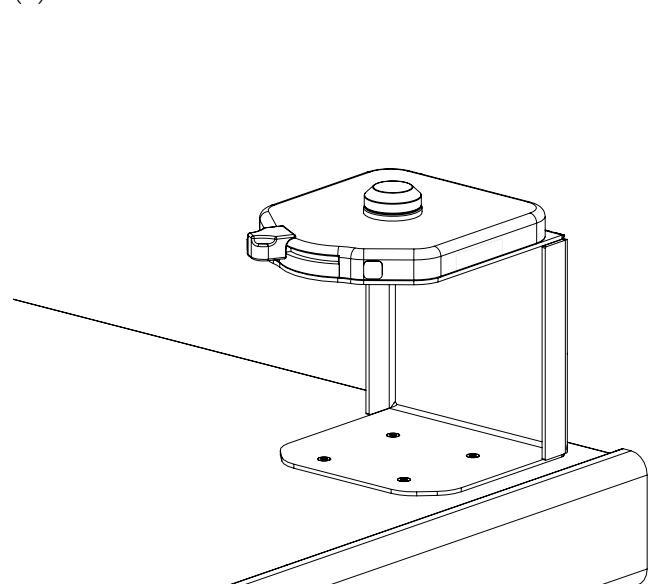

Figure 14: Installation of the base on the Flex Adapter Shelf
5. Place the Universal Mounting Base on the Flex Adapter Shelf, then secure the base using four (4) 10-32 in. stainless steel screws coated with medium strength thread lock adhesive and a screwdriver (Figure 14).